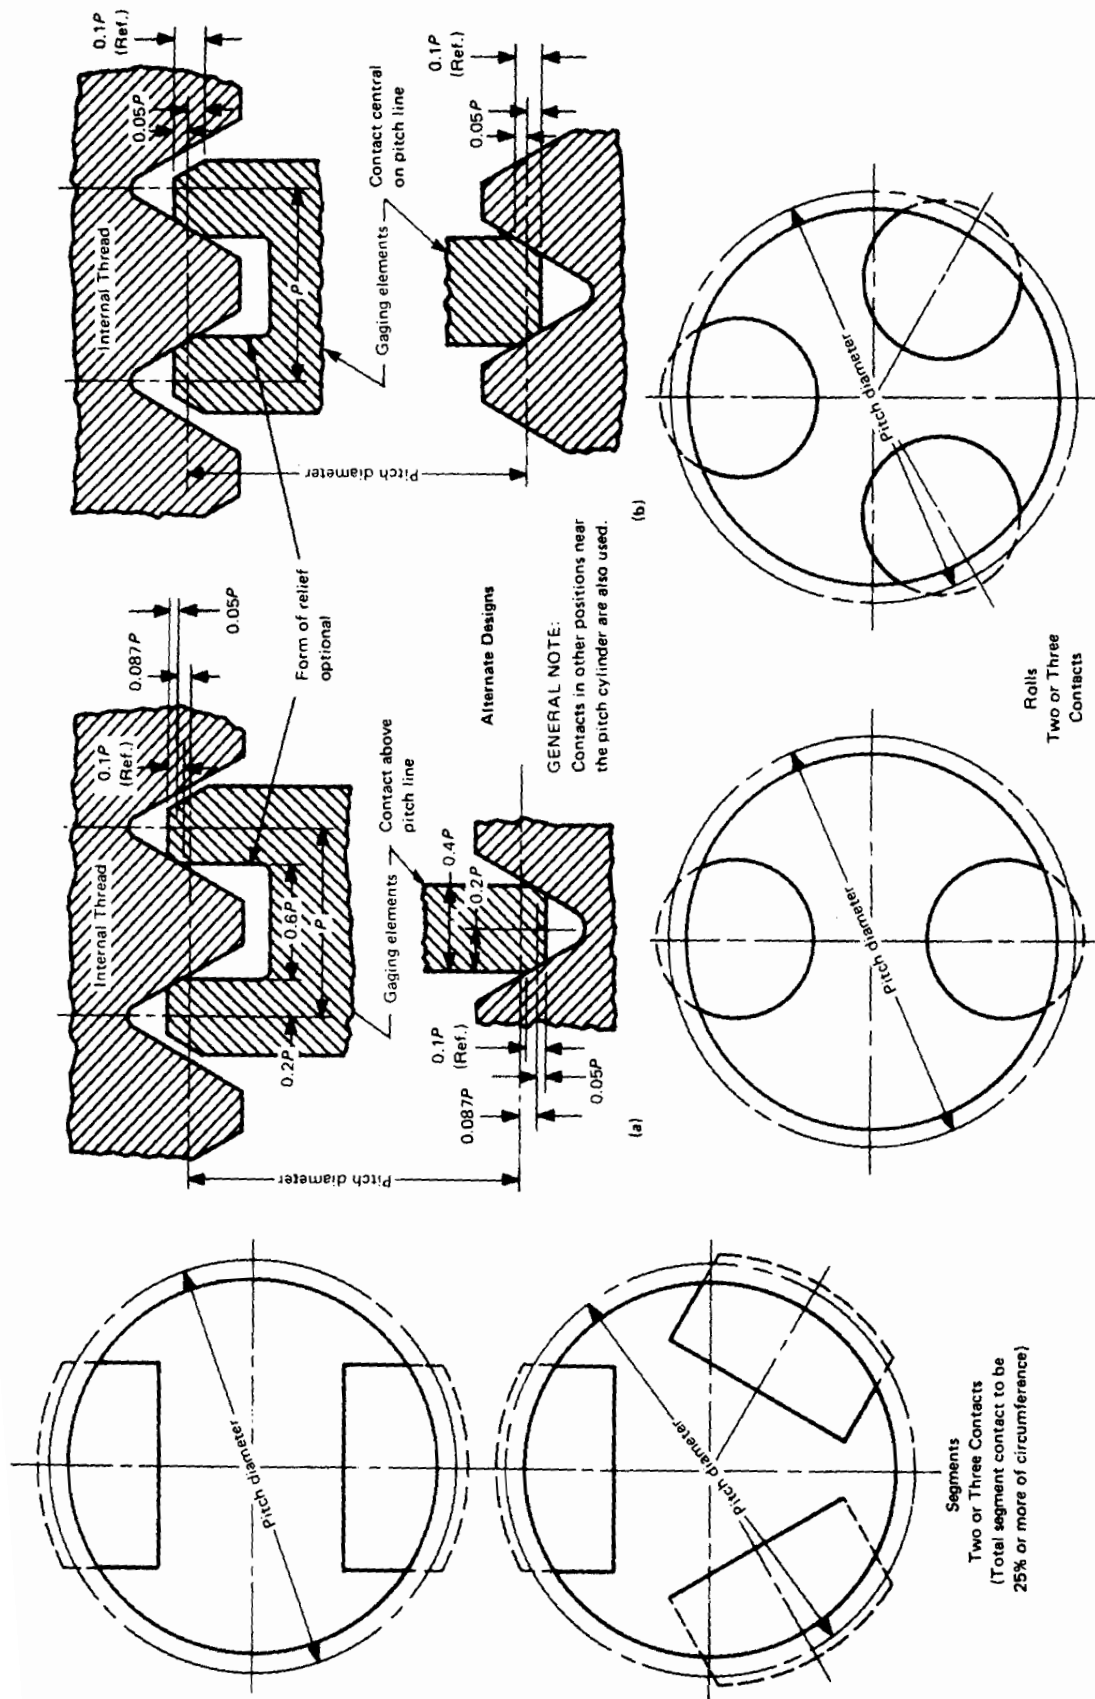
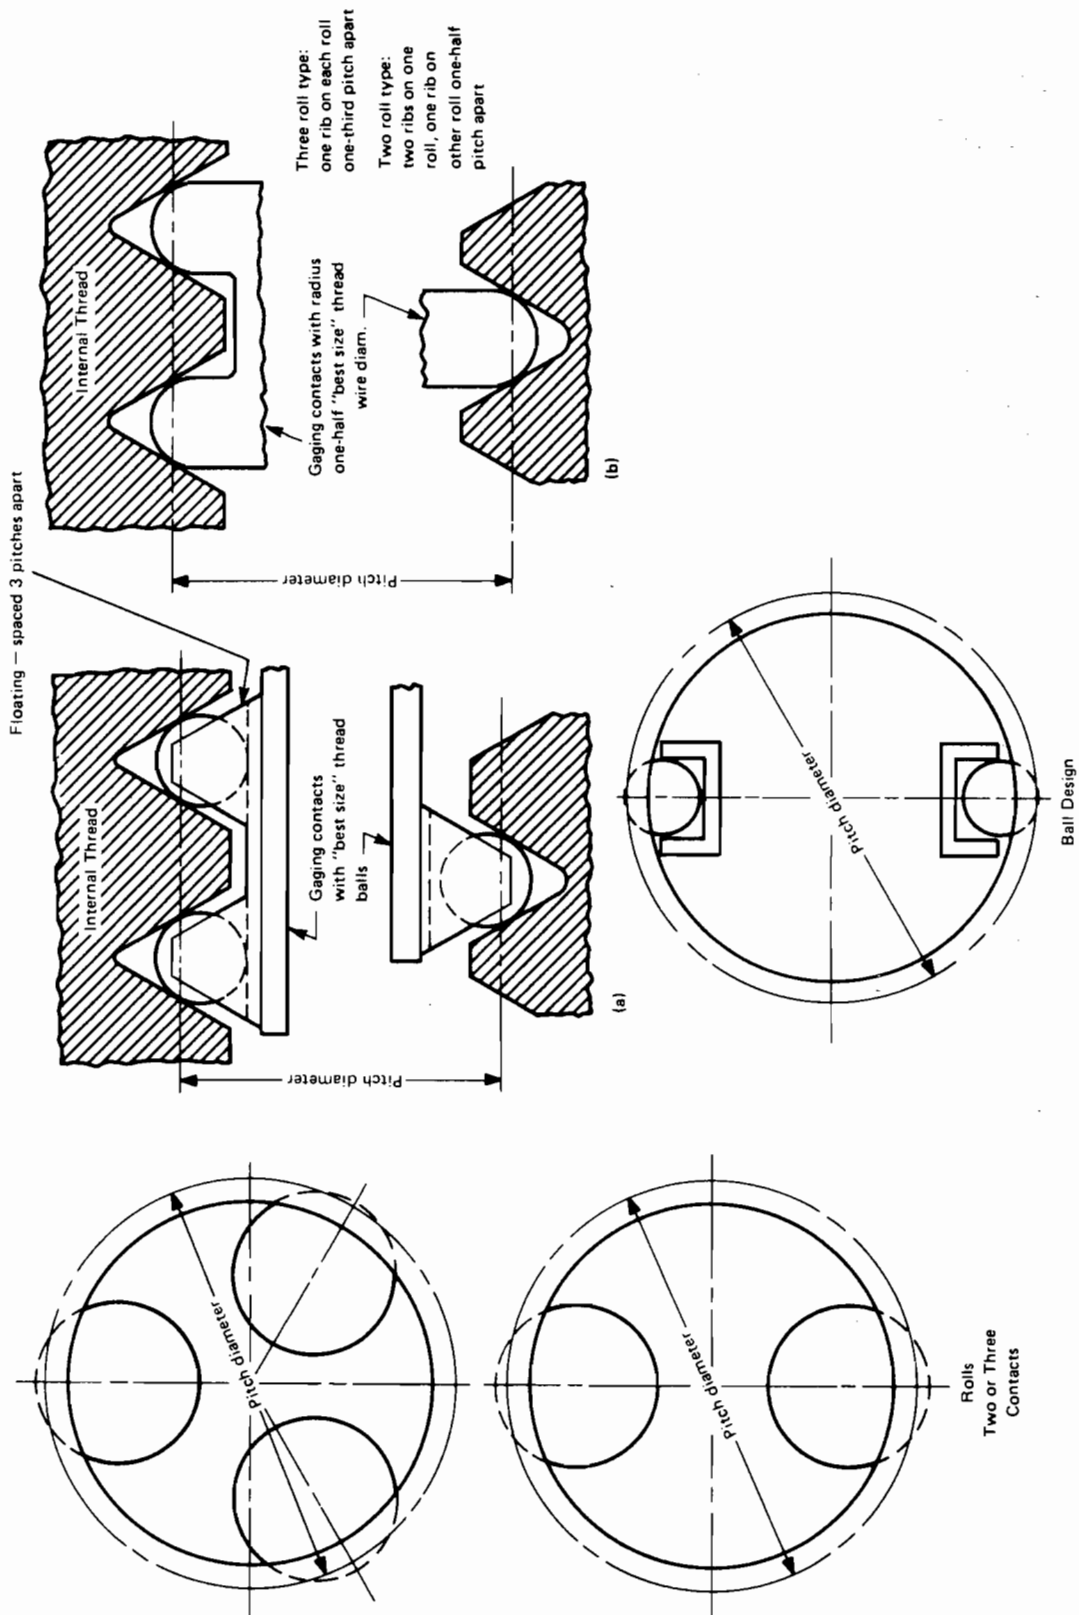
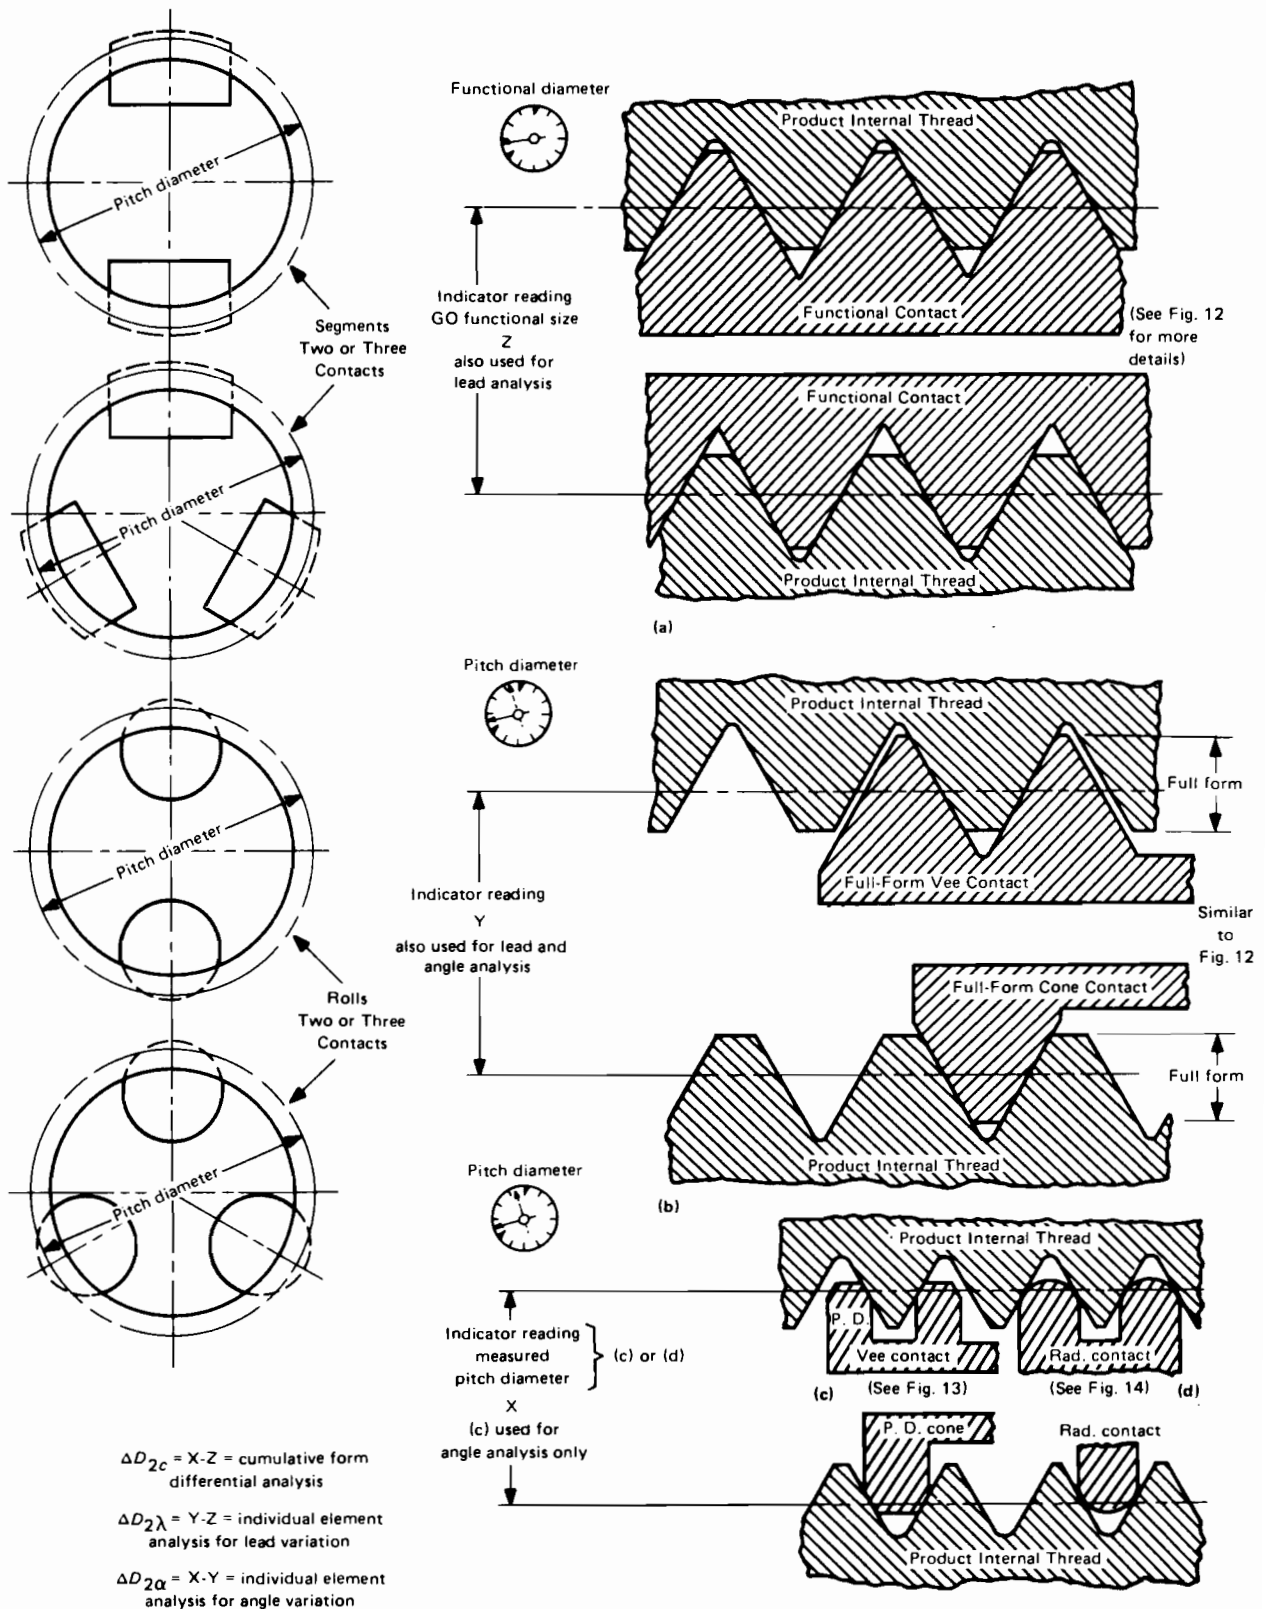

FIG. 13 INDICATING THREAD GAGES — MINIMUM-MATERIAL PITCH DIAMETER LIMIT AND SIZE — CONE AND VEE
FIG. 14 INDICATING THREAD GAGES — MINIMUM-MATERIAL PITCH DIAMETER LIMIT AND SIZE — BALL AND RADIUS
FIG. 16 INDICATING THREAD GAGES — DIFFERENTIAL GAGING
4.11.3 Thread Form. The specifications for cone and vee segments are shown in Fig. 13; the ball design and thread groove diameter type are shown in Fig. 14.
4.11.4 The major diameter of the cone and vee segments or rolls is made to manufacturer's standard. See Figs. 13 and 14.
4.13.2 Cumulative Thread Element Variation Differential. Indicating gages have either three contacts at 120 deg. spacing or two contacts at 180 deg. spacing. The indicating gages with segments or rolls as shown in Figs. 12 and 16, sketch (a) give the functional size indicating reading, Z. The indicating gages with cone and vee segments or rolls with one thread pitch engagement at pitch diameter line, Fig. 13, and thread groove diameter type, Fig. 14, sketch (a) or (b), or both, shown in Fig. 16, sketches (c) and (d), give the pitch diameter size indicating reading, X. The difference in the indicator readings, $X - Z$, between the two types of gages gives the cumulative form differential reading which corresponds to the pitch diameter equivalent, ΔD_{2c} , for the combination of lead, helix, flank angle, roundness, and taper variations on the product thread. See Fig. 16.
The indicating gage reading, X, using segments or rolls with cone and vee design, Figs. 13 and 16, sketch (c), is compared to the reading, Y, using the full-form thread segments or rolls, similar to Figs. 12 and 16, sketch (b). Both designs have one thread pitch engagement. The difference between the measured values, $X - Y$, is the flank angle differential reading which corresponds approximately to the pitch diame-
4.13.3.3 Roundness and Taper Differential Readings. By the use of full-form thread segments or rolls with one thread pitch engagement, similar to Figs. 12 and 16, sketch (b), cone and vee segments or rolls, Figs. 13 and 16, sketch (c), or thread groove diameter type, Figs. 14, sketch (a) or (b), and 16, sketch (d), the roundness and taper of pitch cylinder is checked. Rotate the product between contacts at different axial locations on thread for maximum difference in roundness and taper readings. Two contacts spaced 180 deg. apart give even lobing out-of-round measurement. Three contacts spaced 120 deg. apart give odd lobing out-of-round measurements.
4.13.4 Thread Form. The functional segments or rolls, Fig. 16, sketch (a), are described in 4.10. The full-form one thread vee segment or roll, Figs. 12 and 16, sketch (b) upper contact, has a depth of thread equivalent to the functional type, but relieved on the outside thread flanks. The full-form cone segment or roll, Figs. 12 and 16, sketch (b) lower contact, has a $p/8$ flat on outside diameter. The cone and vee segments or rolls, Fig. 16, sketch (c), are described and shown in Fig. 13. Thread groove diameter type, Fig. 16, sketch (d), is described and shown in Fig. 14.
inspects the pitch diameter of the internal thread. It is shown in Fig. 14, sketch (a). Special fixturing and ball probes may be required when using a three-axis coordinate measuring machine for internal measurement of pitch diameter. See Appendices B9 and B10 for more information on thread-measuring balls.